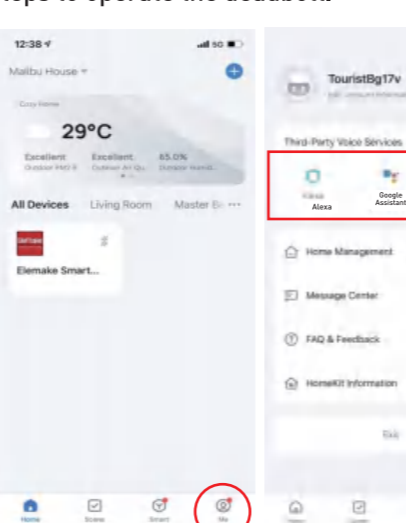

Figure Q-5
(5) Alexa/Google Assistant/Smart Things operations (Figure Q-5)